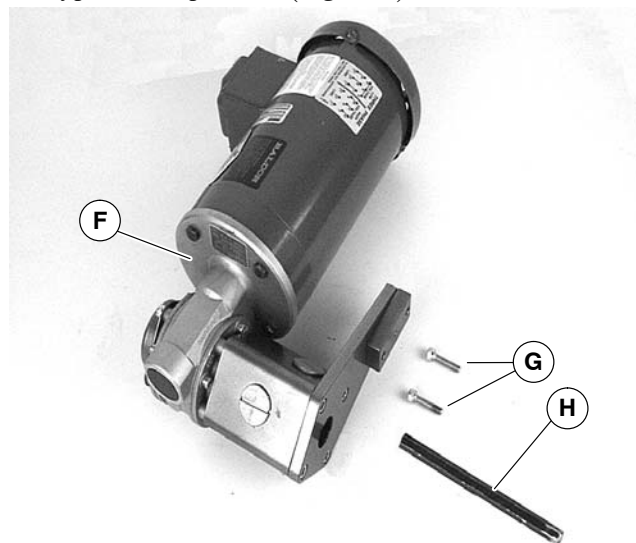

Figure 2
1. Typical components (Figure 2)
NOTE: Flat belt mounting package shown above (Figure 2), cleated belt mounting package similar.